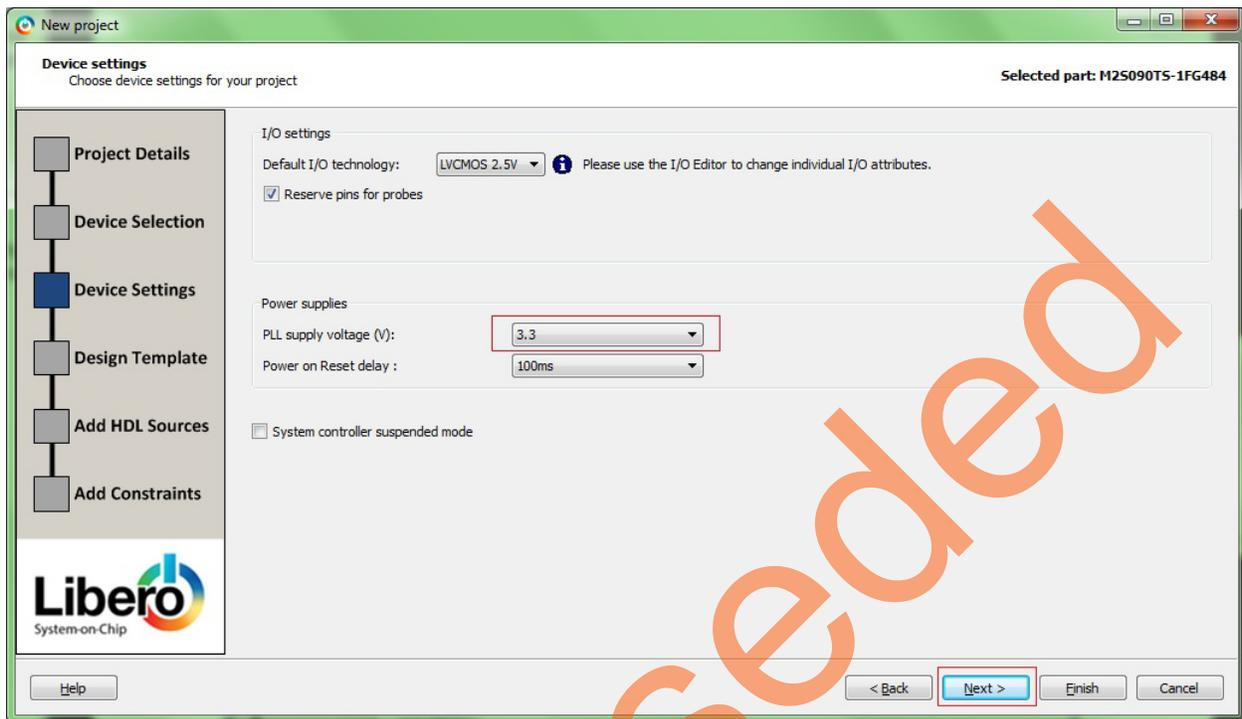

Figure 5 • Device Settings
5. Click **Next**. This opens **Device Settings** page as shown in Figure 5. Select PLL supply voltage as 3.3.